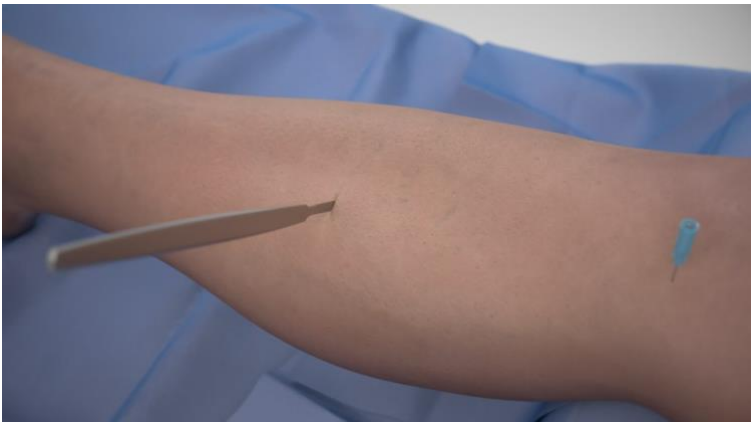

Figure 3
5. Make a small stab incision at the skin mark. (Figure 3)